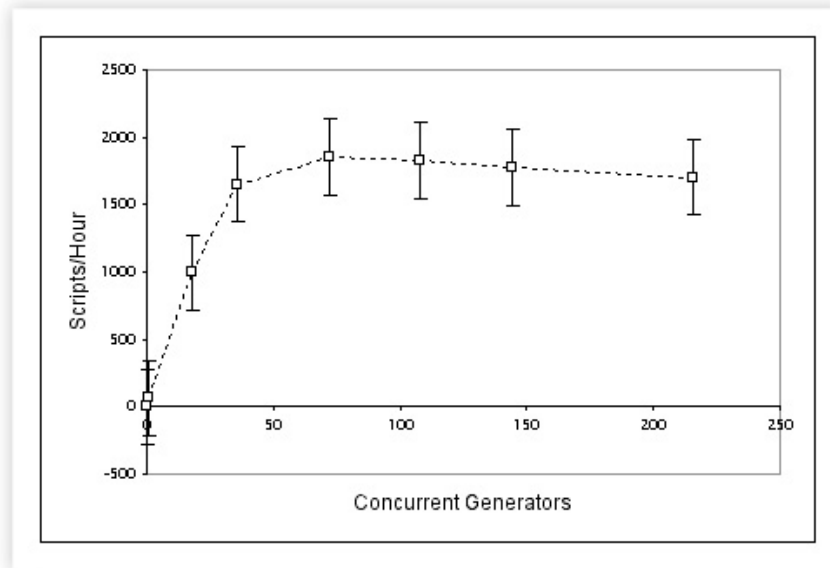

Figure 1: Error bars on a throughput plot.
3. Error bars: See Fig. 1.
Since the error may differ for each data point, the (vertical) error bars in Fig. 1, should have different heights that reflect that error. Fig. 1 used the EXCEL "Y Error Bars" tab and it automatically computes the standard error. But this is better than nothing.